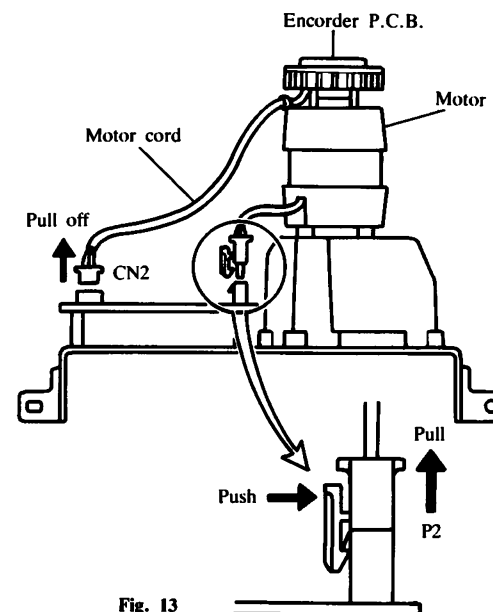

Fig. 13
- (1) Disconnect the Motor (P2, 3 pins) and Encorder P.C.B. (CN2, 3 pins) connectors from the Main P.C.B.. (Refer to Fig. 13)